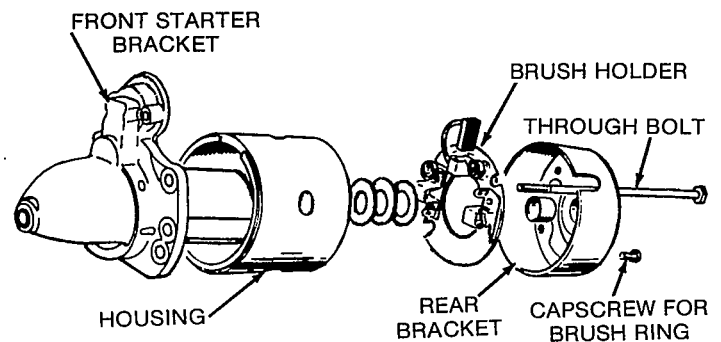

FIGURE 24. REMOVING THROUGH BOLTS
Normally the starter will require little or no service other than possible brush replacement. See Figure 24. However, if through accident or misuse, the starter requires service or overhaul, the following procedures will provide the information necessary to perform this service.
2. After removing the through bolts, the starting motor can be divided into three parts—the front bracket, housing and rear bracket. The spacing washers shown in Figure 24 are used for adjustment of the thrust gap of the armature shaft and are placed between the rear bracket and the commutator.